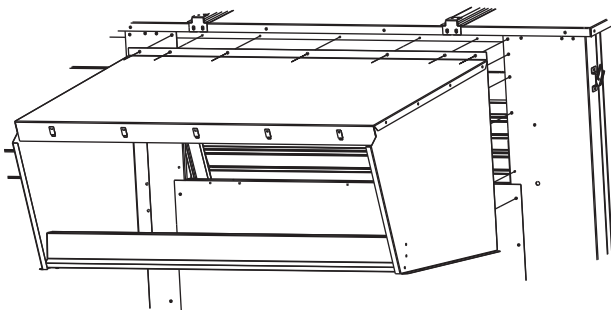

Fig. 21 — Removing Screws from the Outdoor Air Opening of Unit
8. Remove the screws on each end and along top of the outdoor air opening of unit. Set hood assembly in place and attach to unit using gasketed screws. See Fig. 21.